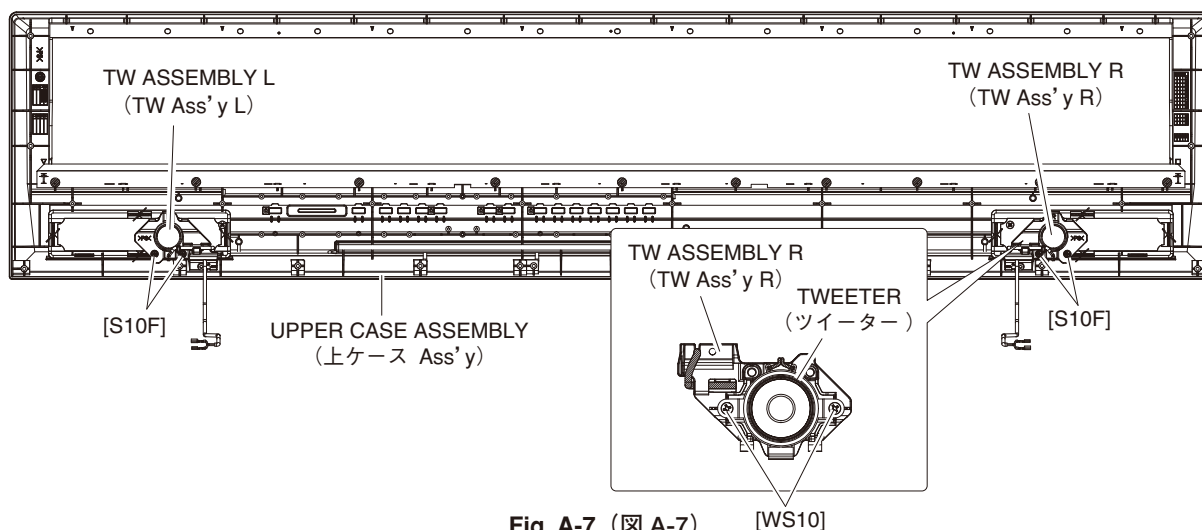

Fig. A-7 (図 A-7)
- A-9-3. Remove the two (2) screws marked [S10F]. The TW assembly can then be removed. (Fig. A-7)
- A-9-4. Remove the two (2) screws. The tweeter can then be removed. (Fig. A-7)
(図 A-7)
- A-9-4. ネジ 2 本を外し、ツイーターを外します。(図 A-7)